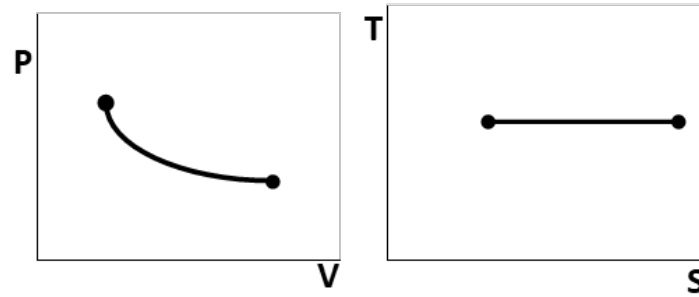

Fig.1.8: Isothermal on a  $P - V$  diagram (left) and  $T - s$  diagram (right).
**Isothermal:** Boyle’s law becomes Eq.1.22. Fig.1.8 shows an isothermal system on a  $P - V$  and on a  $T - s$  diagram. ( $n = 1$ )